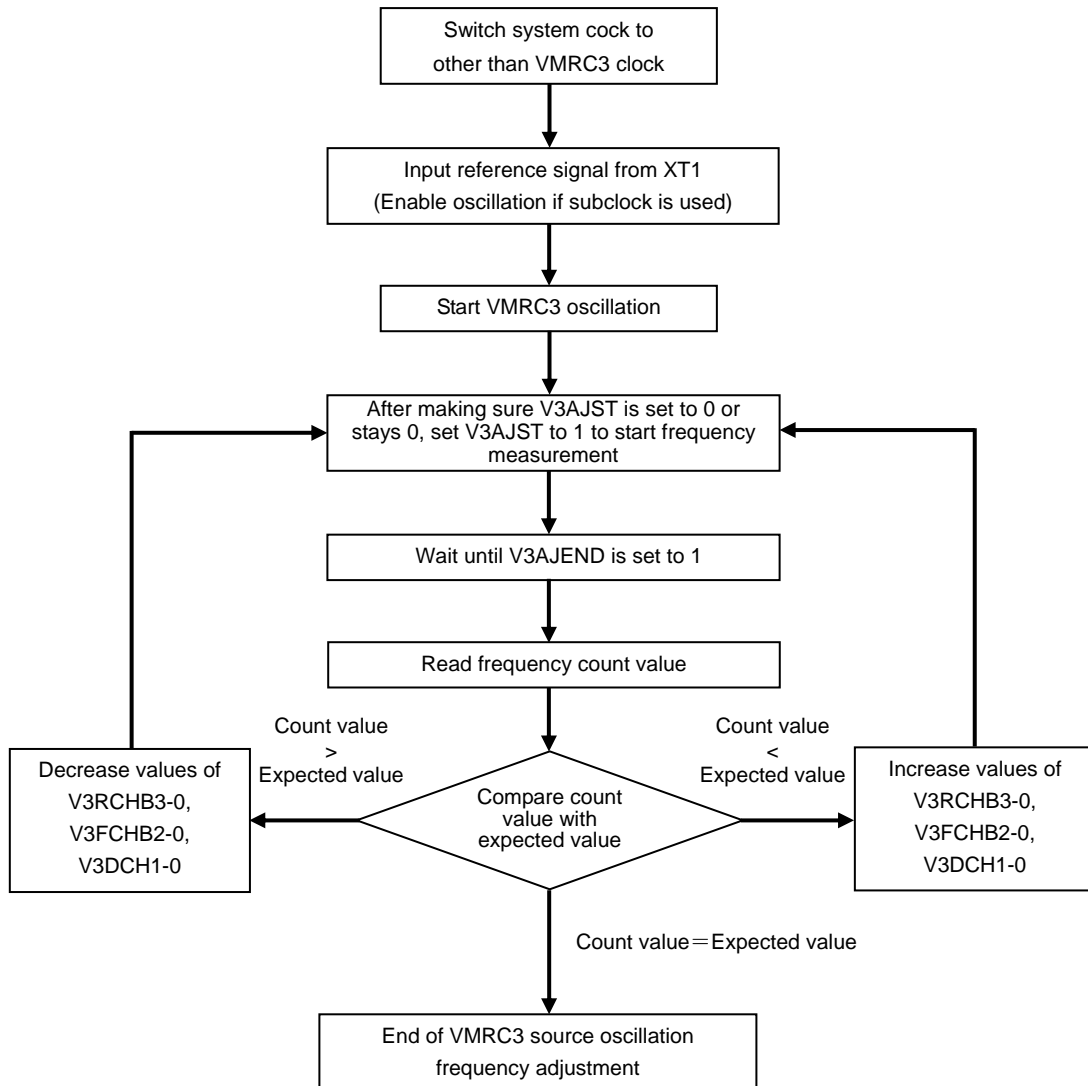

Figure 4.3.4 VMRC3 Source Oscillation Frequency Correction Flowchart
- Since the adjustment margins of V3RCHB3 to V3RCHB0, V3FCHB2 to V3FCHB0, and V3DCH1 to V3DCH0 vary depending on the supply voltage and ambient temperature, repeat steps 2) and 3) until the optimum correction value is obtained (see Figure 4.3.4, "VMRC3 Source Oscillation Frequency Correction Flowchart").